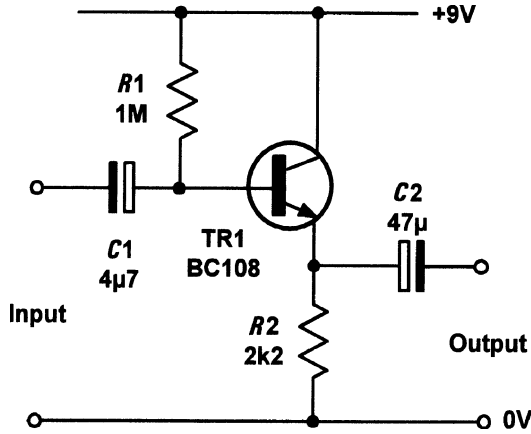
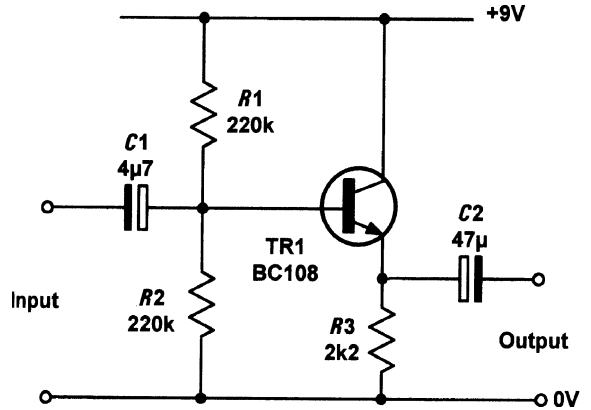

Figure 7.40 A practical emitter-follower stage
Figure 7.41 An improved emitter-follower stage
Two practical emitter-follower circuits are shown in Figs 7.40 and 7.41. These circuits offer a voltage gain of unity (1) but are ideal for matching a high resistance source to a low resistance load. It is important to note that the input resistance varies with the load connected to the output of the circuit (it is typically in the range $50\text{ k}\Omega$ to $150\text{ k}\Omega$). The input resistance can be calculated by multiplying h_{fe} by the effective resistance of $R2$ in parallel with the load connected to the output terminals.
Figure 7.41 is an improved version of Fig. 7.40 in which the base current is derived from the potential divider formed by $R1$ and $R2$. Note, however, that the input resistance is reduced since $R1$ and $R2$ effectively appear in parallel with the input. The input resistance of the stage is thus typically in the region of $40\text{ k}\Omega$ to $70\text{ k}\Omega$.